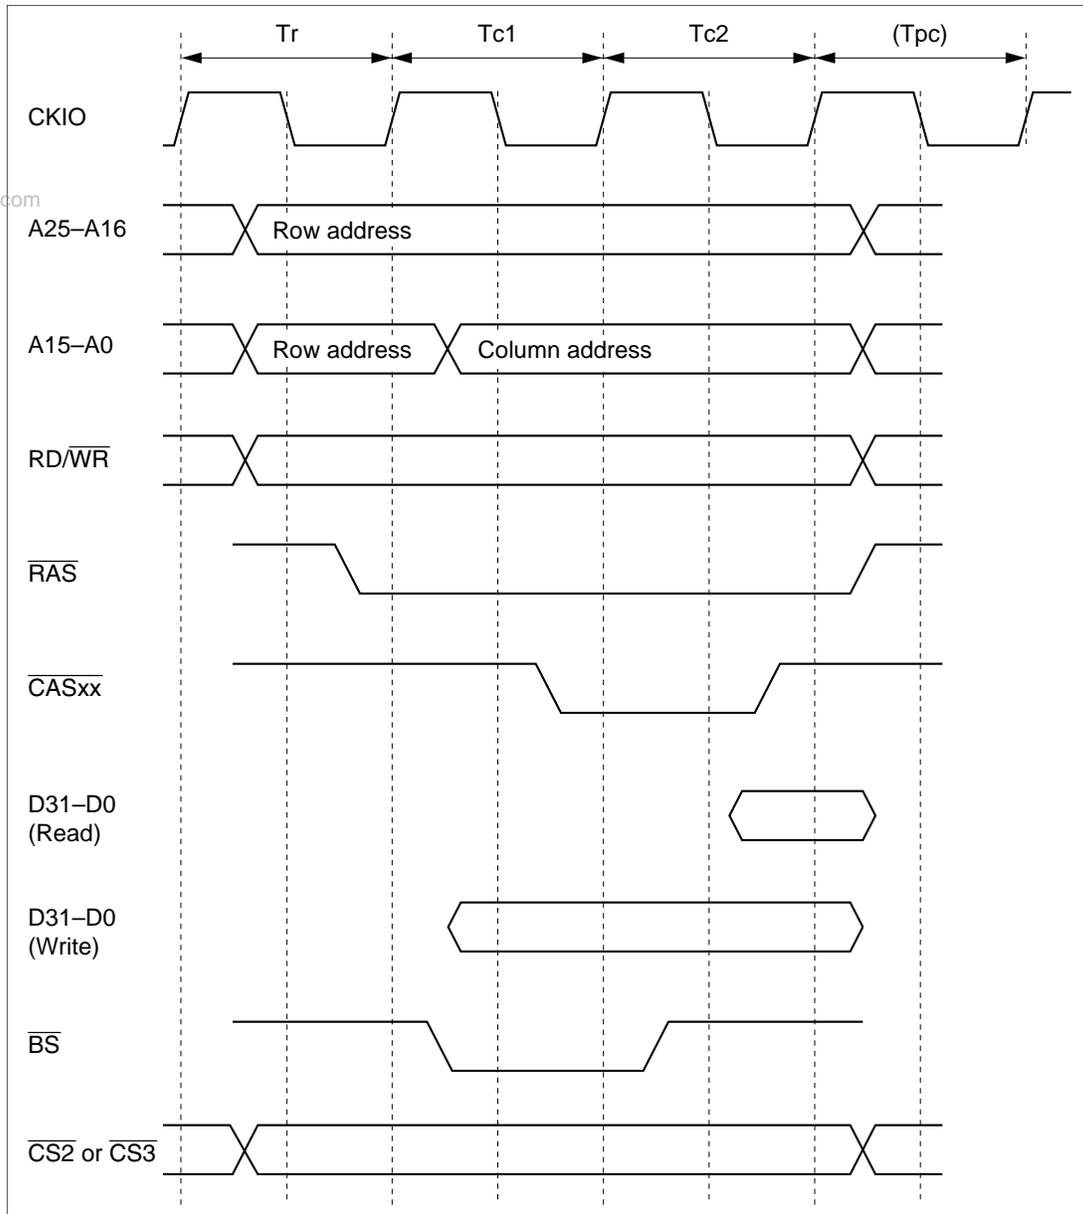

Figure 10.17 Normal Access Timing in DRAM EDO Mode
**EDO Mode:** In DRAM, an extended data out (EDO) mode is also provided in which, once the  $\overline{\text{CAS}}$  signal is asserted while the  $\overline{\text{RAS}}$  signal is asserted, even if the  $\overline{\text{CAS}}$  signal is negated, data is output to the data bus until the  $\overline{\text{CAS}}$  signal is next asserted. (This is in addition to the mode in which data is output to the data bus only while the  $\overline{\text{CAS}}$  signal is asserted in a data read cycle.) In the SH7708 Series, the EDO mode bit (EDOMODE) in MCR enables selection, for area 3 DRAM only, of either normal access/burst access using high-speed page mode or EDO mode normal access/burst access. EDO mode normal access is shown in figure 10.17, and burst access in figure 10.18.